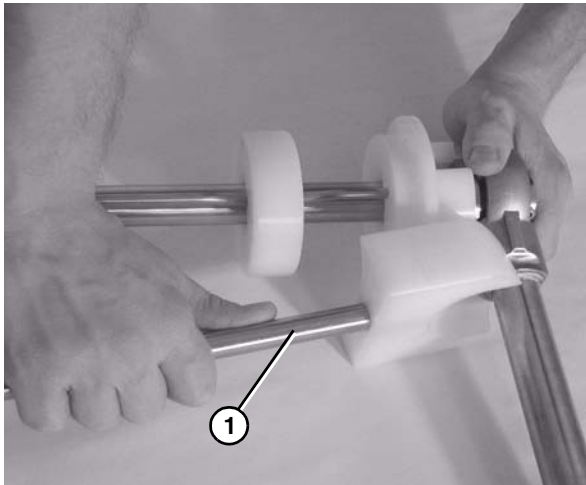

Figure 64
4. Attach the guard bar (**Figure 64, item 1**).